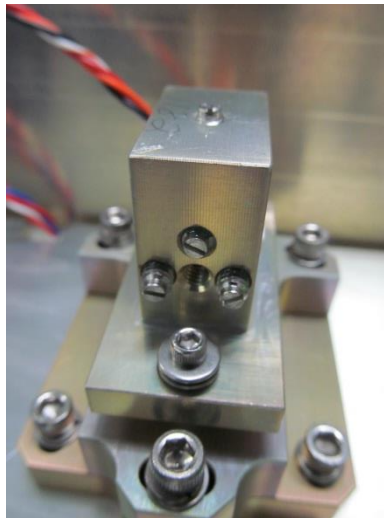
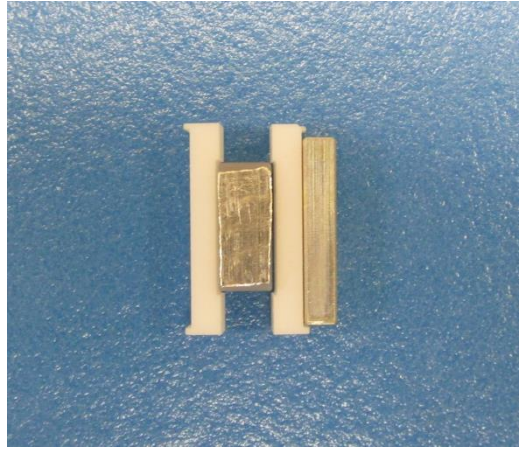

Figure 2-23: Ball Plunger Screw Locations
Figure 2-24: Insulators, Crystal and Load Spreader
3. Loosen all 4 ball plunger screws as shown in **Figure 2-23**. Use tweezers to carefully remove the conductive copper block, aluminum load spreader, two macor insulators and SHG crystal seen in **Figure 2-24**. Discard used indium foil.
4. Cut 0.002" thick indium foil into (2) 4x9mm pieces, and .010" thick indium foil into (1) 6 x 15mm piece.
6. Carefully place the two white insulators on either side of the crystal, making sure that the crystal fits into the groove of each piece. With the arrow on the crystal pointing away from you, place the load spreader next to the insulator on the right-hand side of the crystal as shown in **Figure 2-24**.